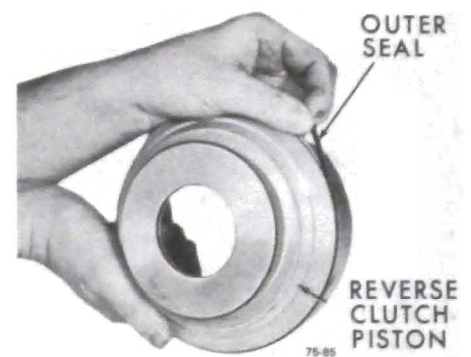

Figure 75-122
1. Remove low and reverse clutch piston outer seal. See Figure 75-122.